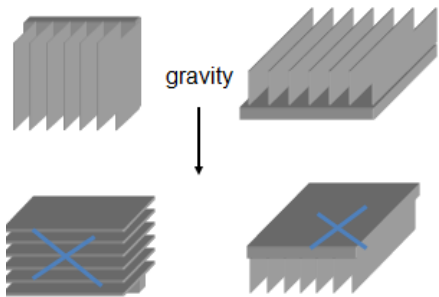

Figure 7: The orientation of heat sinks in the power supply under natural convection
- The layout of a heatsink when used with a switched mode power supply should be based on the following principal: buoyancy effects of air forces hot air to move up, and cold air to come down due to gravity, see Figure 7.